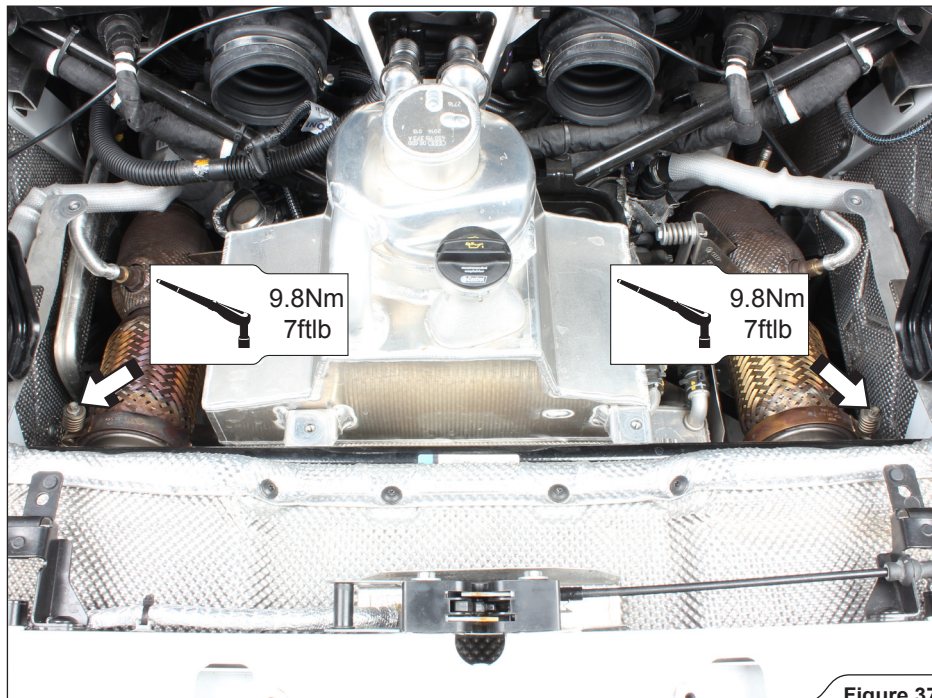

Figure 37
4. Tighten the stock muffler's connection clamps on both sides of the engine to the specified torque (**Figure 37**).